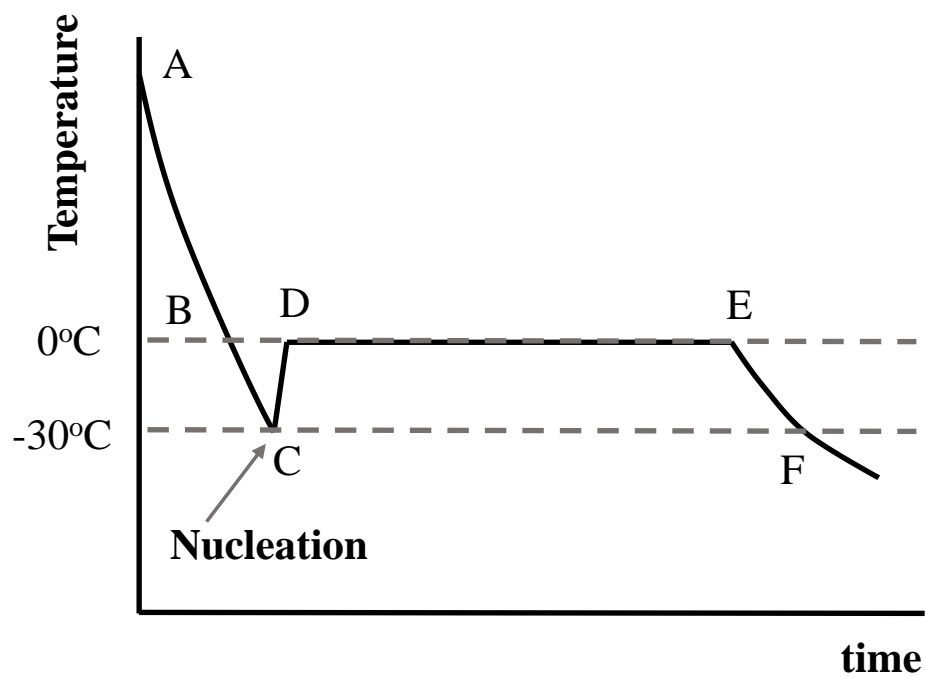

Fig. 1
- (c) Figure 1 shows a typical freezing process of pure water from water to ice.
- (iii) A small amount of salt is dissolved in pure water. What are the possible changes to the positions of points B, C, D and E in Fig. 1? Explain your answer. [4]